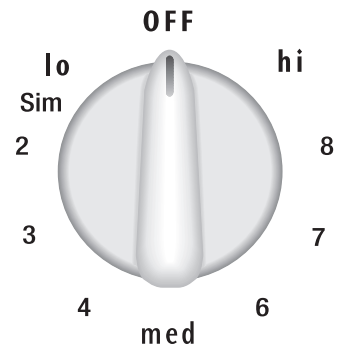

Figure 3
2. Push in and turn the surface control knob in either direction to the desired setting (Figure 3). Turn the knob to adjust the setting if desired. Start most cooking operations on a higher setting and then turn to a lower setting to finish cooking. Each surface element provides a constant amount of heat at each setting. A glowing red surface heating area extending beyond the bottom edge of the cookware indicates the cookware is **too small** for the surface heating area.